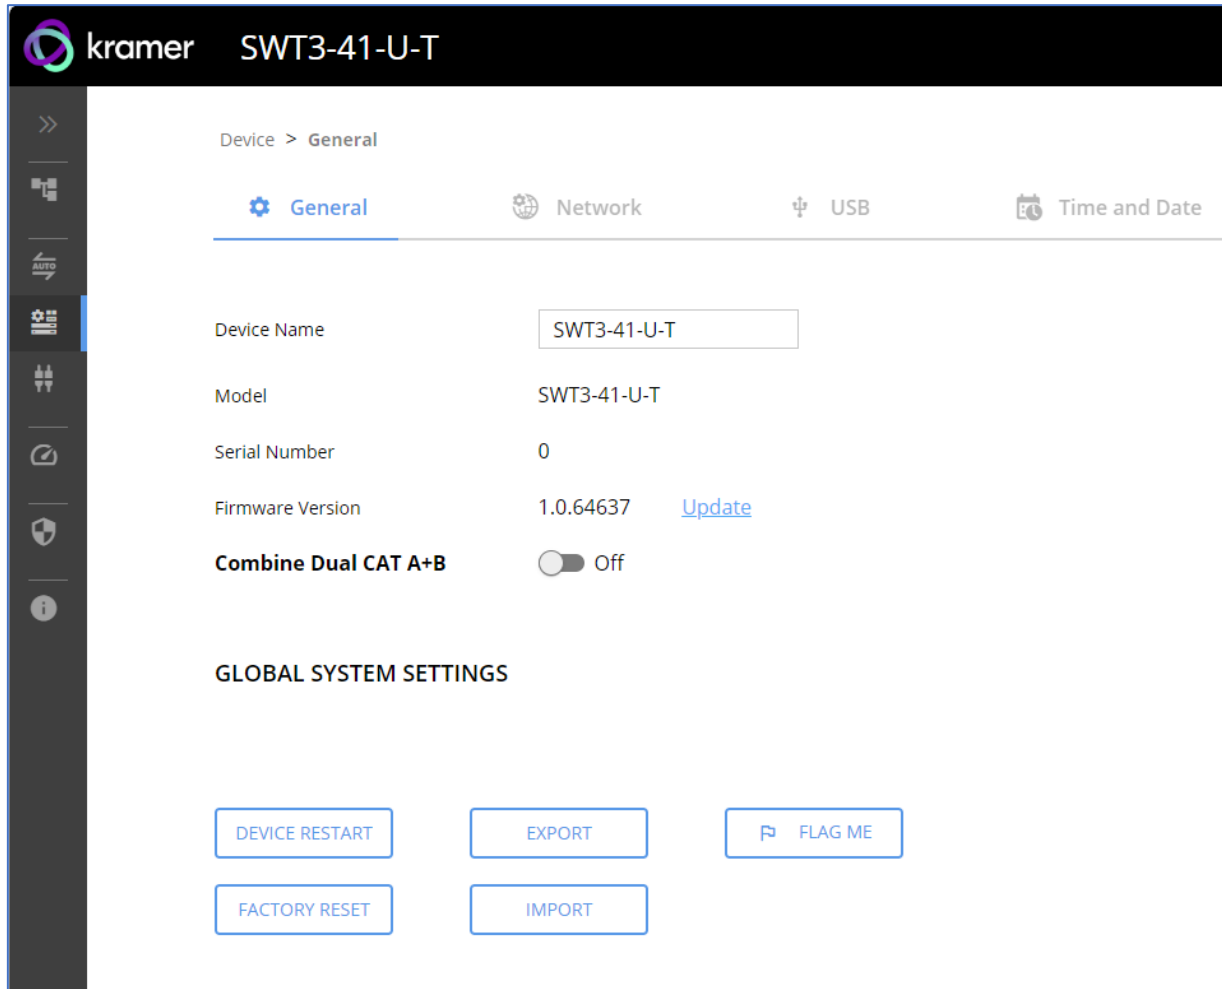

Figure 22: Device > General Page
1. Go to the **Device > General** tab (Figure 22).
- Click **DEVICE RESTART** on the **Device > General** page (Figure 22).
- Click **FACTORY RESET** on the **Device > General** page (Figure 22).
1. Go to the **Device > General** page (Figure 22).